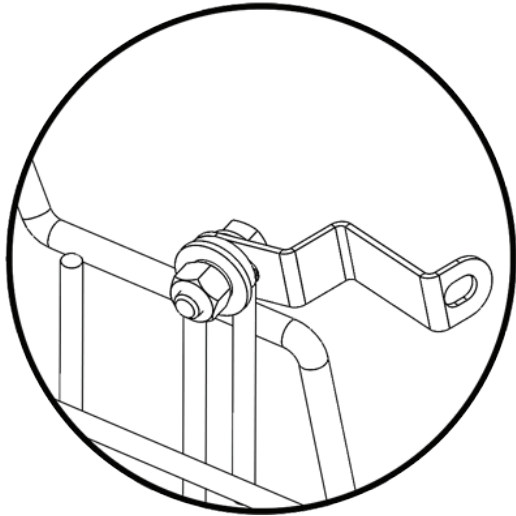
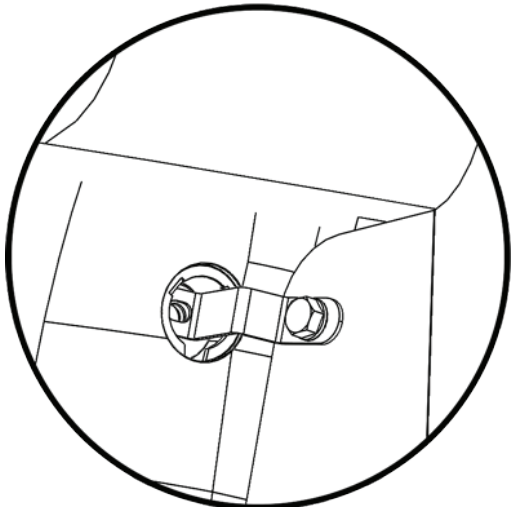

FIGURE 3. BRACKET (MESH)
FIGURE 5. DRIVER'S POV
STEP 5: Loosely mount the side brackets to the bulkhead (FIGURES 3, 4) and fasten to the B-pillars using the factory M8 x 1.25 bolts (FIGURE 5).